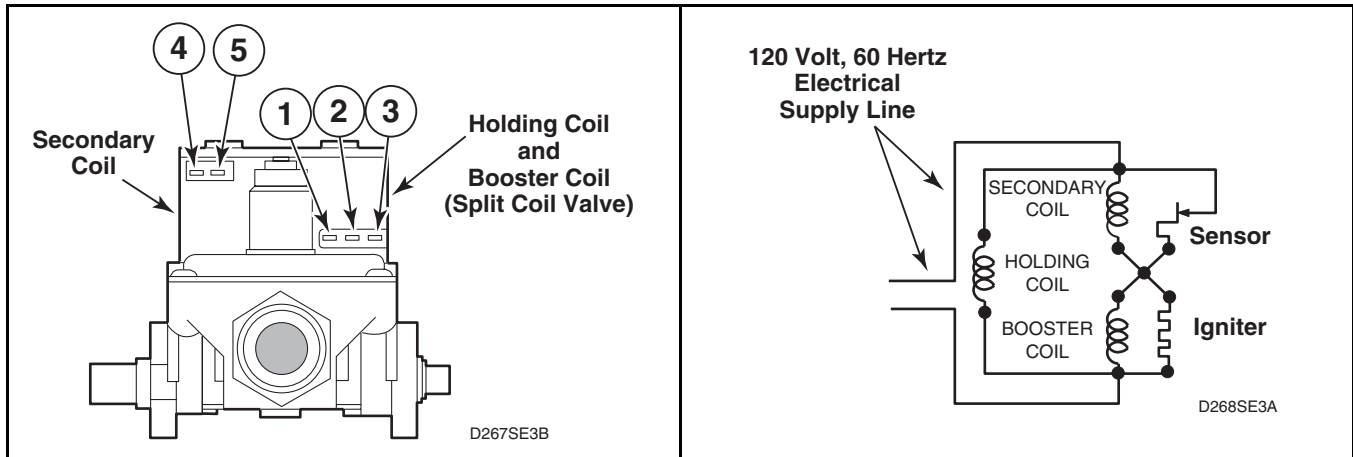

Figure 68
91. BURNER SYSTEM OPERATION (Gas Models – Refer to *Figure 68*.)
- Set test meter to read AC voltage and apply meter probes into terminals on the dryer harness plug that would correspond to terminals "1" and "2" on the coil. *Figure 68*. Meter should register line voltage in all Fabric settings, except NO HEAT which should read "zero" VAC.